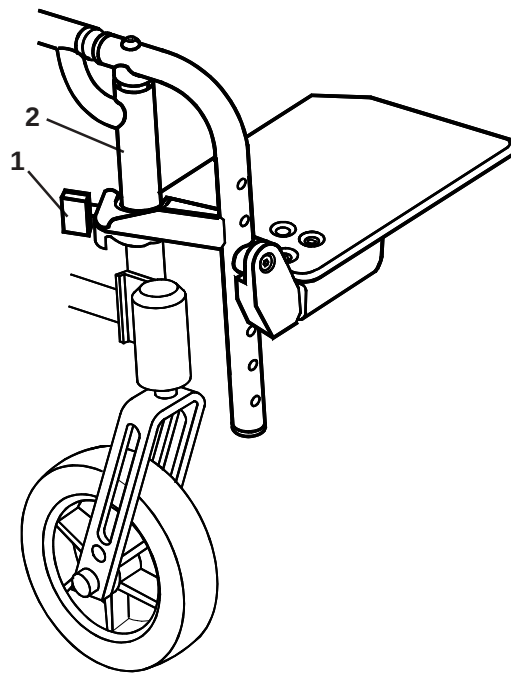

Fig. 16
The 90° kids footrest is shown in Fig. 16.
To release the footrest (Fig. 16), push the release latch (1) toward the frame (2), and rotate the footrest outward. To remove the footrest from the chair lift vertically from this position.